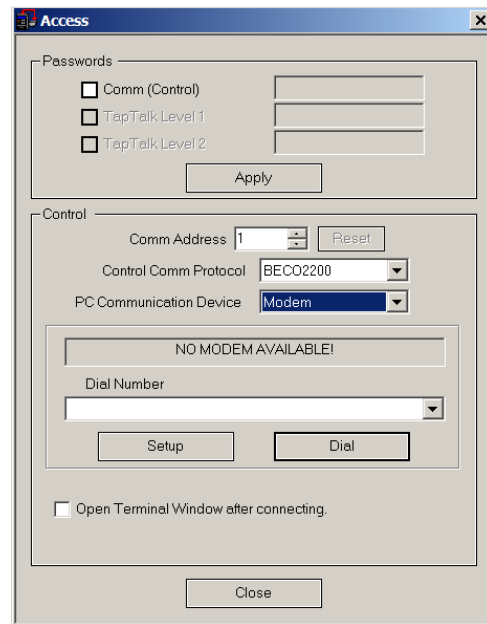

Figure 9-11 Communication Access (Modem) Dialog
2. Select modem from **PC Communication Device** section, TapTalk will display Figure 9-11, **Communication Access (Modem) Dialog Screen**, then proceed as follows to input information required for modem communication: